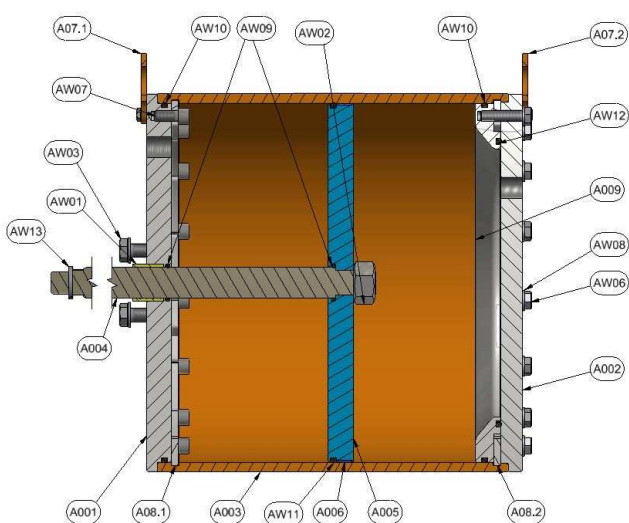

Figure 5 - Power Module - STD
7.1.1.2. For standard power module (Figure 5), progressively loosen all the screw until the end cylinder flange (A002) is relieved from all the tension. Completely unscrew all the screw (AW06).